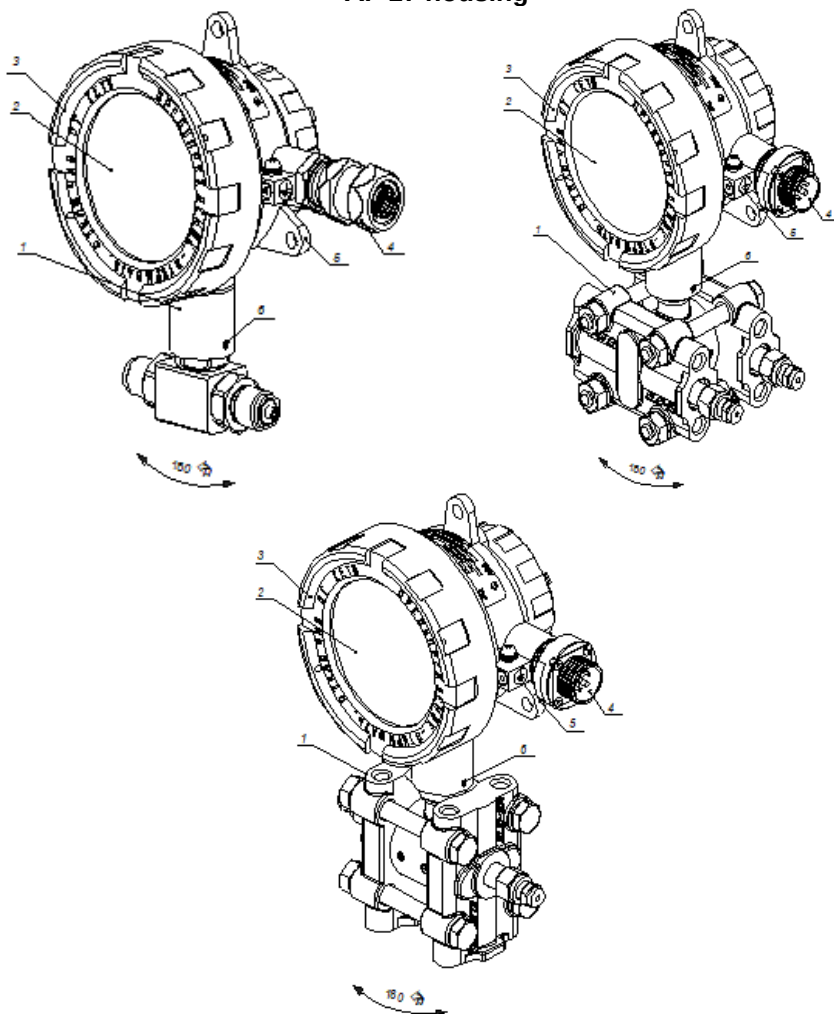

Figure 2.7
- Designations for Figure 2.7: